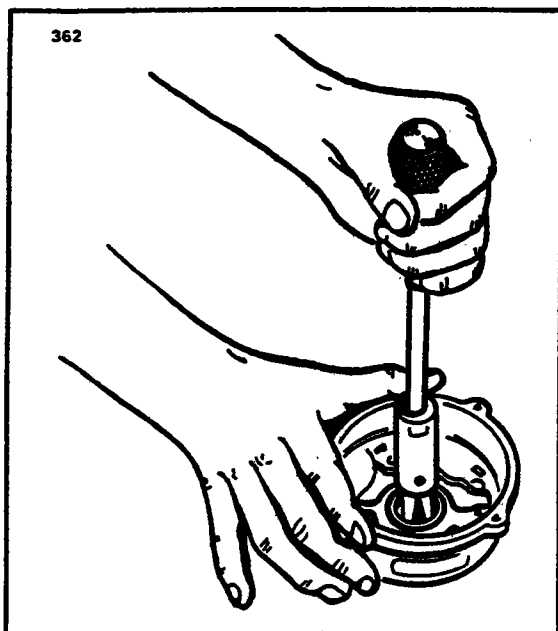

Figure 11-72. Removal of Slip Ring
- e. To remove the slip ring end bearing and grease seal, it will be necessary to have a hook type or impact type bearing puller as shown in Figure 11-72. Do not remove the bearing unless replacement is necessary.